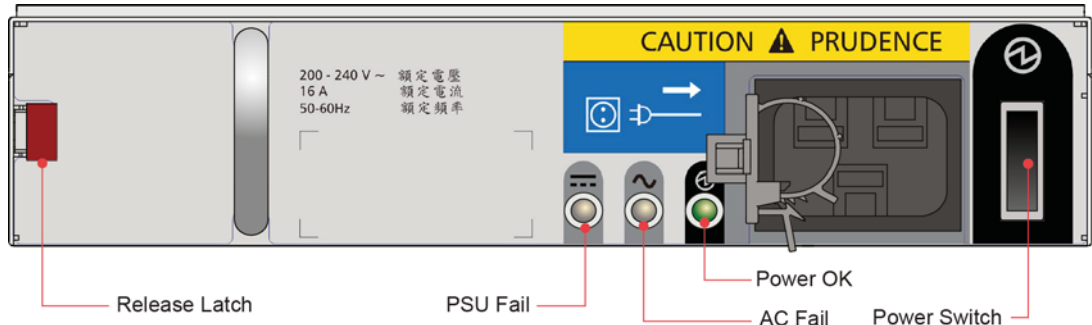

Figure 4-1 PSU Power Switch and LEDs
- 1 Connect the power cables to the PSU(s) – see Figure 4-1.
For modules with EBOD controllers, switch off all installed PSUs by moving the power switches to the “Off” position (see Figure 4-1 on page 30).